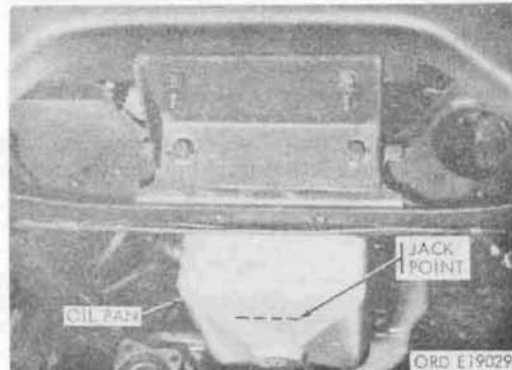

Figure 95. Front jack point
- (5) Place a jack under the front of the oil pan and raise the power plant enough to facilitate the removal of the front mounts (fig. 95).
- (6) Remove and discard the engine front mounts.